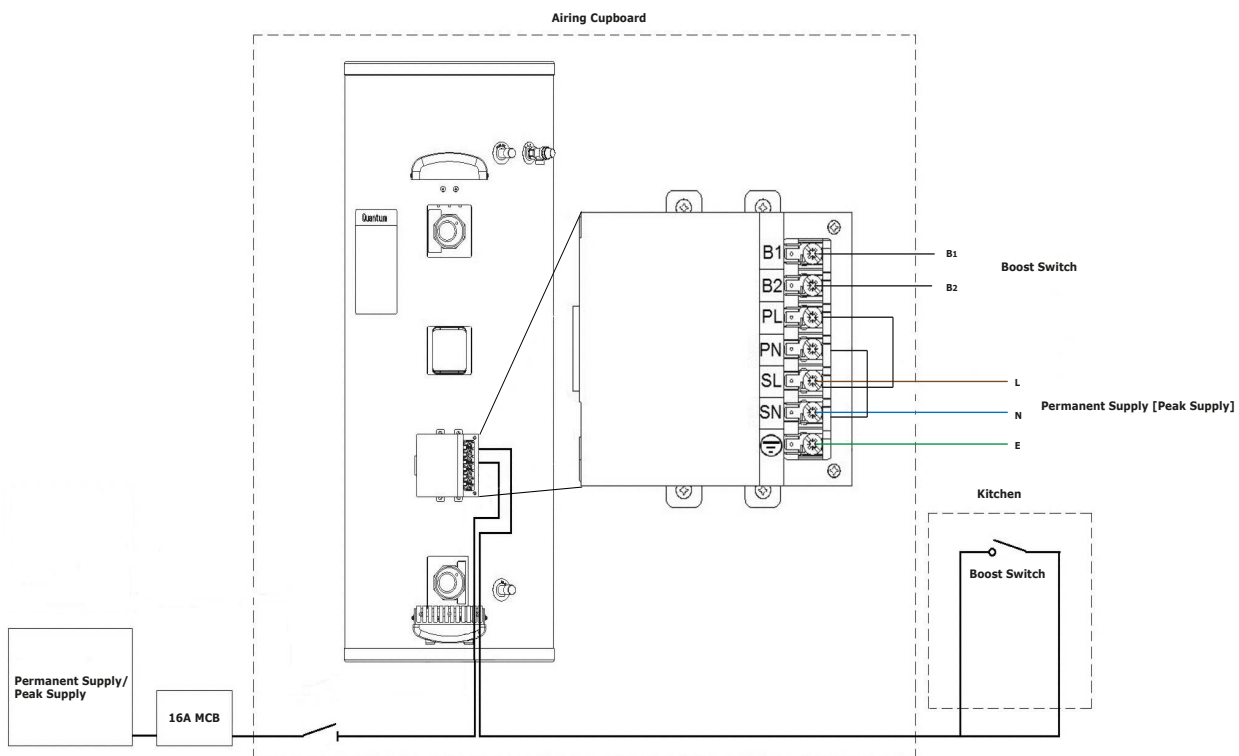

Figure 8: Energised or Always On Wiring Configuration
The main immersion heater and boost immersion heater supplied with this cylinder come pre-wired. A supply cable shall be connected to the unit through the entry in the electrical enclosure, at the bottom of the cylinder. Details are given on how to do this in section 6.5 of this manual. The electrical wiring diagram for the product is shown in Figure 8.
- Timed tariff requires that time period is set during which the cylinder will be heated to the primary temperature set-point. This heat up or charge period on the cylinder to be aligned with any low cost energy tariff available. See Figure 8 for wiring configuration.